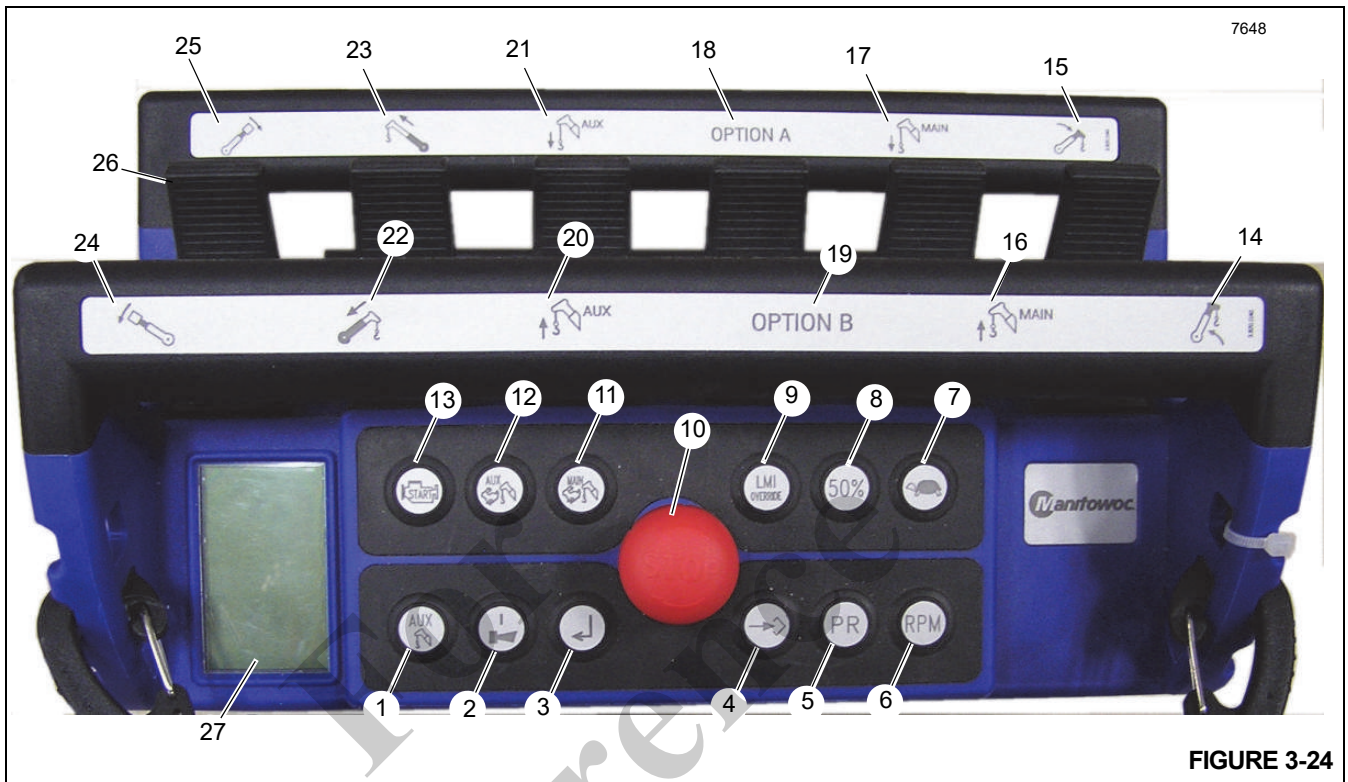
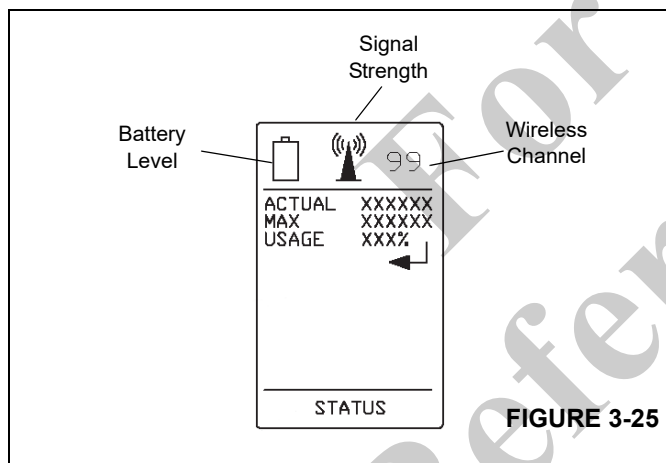

FIGURE 3-24
FIGURE 3-25
The optional Crane Remote Control (Figure 3-24) will allow full remote control of the crane. The standard Remote Control is disabled when using the optional Crane Remote Control.
The LCD Screen (27, Figure 3-24 and Figure 3-25) on the display is used to communicate signal strength, battery level, wireless channel, remote status, and the configuration of the machine based upon which buttons are depressed. RCL information is also displayed to the operator and can be toggled by pressing the Toggle Crane RCL Screen button (3). The following RCL information is available to the operator on the LCD screen:
To use this remote, the red STOP button (10, Figure 3-24) must be activated to turn ON the transmitter. To control the crane, the ON/Horn button (2) must be pressed to activate the remote. The crane horn will sound as confirmation that the remote is now active. The crane can now be started by pressing and holding the Engine Start button (13). The remote can now be used to control the crane. To activate a function move the joystick (26) that corresponds to the desired movement.
1. To use this remote, the red STOP button (10, Figure 3-24) must be activated to turn on the transmitter.
2. Press the ON/Horn button (2) to activate the remote. The crane horn will sound as confirmation that the remote is now active.
3. Press and hold the Engine Start button (13) to start the crane. The remote can now be used to control the crane.
4. Move the joystick (26) that corresponds to the desired movement to activate desired function.
5. Press the red STOP button (10) when finished with the remote. This will shut off the crane.